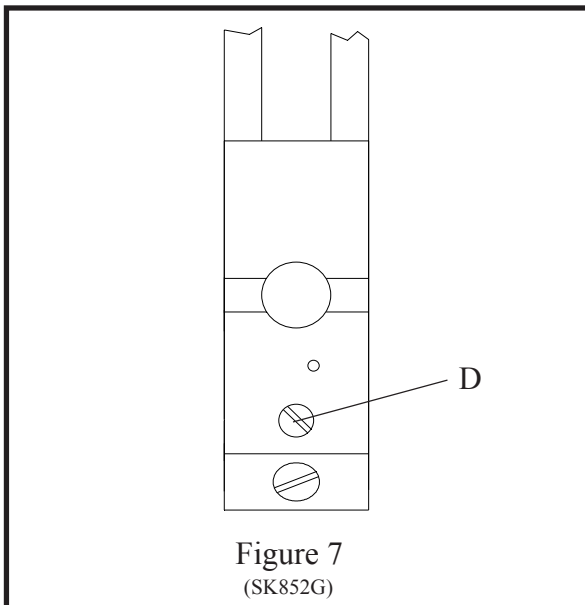

Figure 7
C. Head/Clincher Alignment (See fig. 7)
1. To adjust for front-to-rear alignment: (Fig. 7)